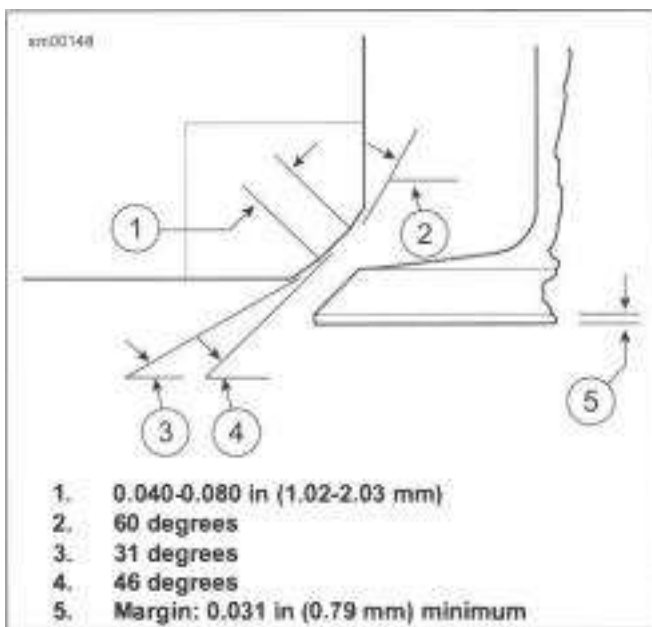

Figure 4-33. Valve and Seat Dimensions
- *See Figure 4-33. Replace the valve if margin (5) is less than 0.0313 in (0.795mm).*